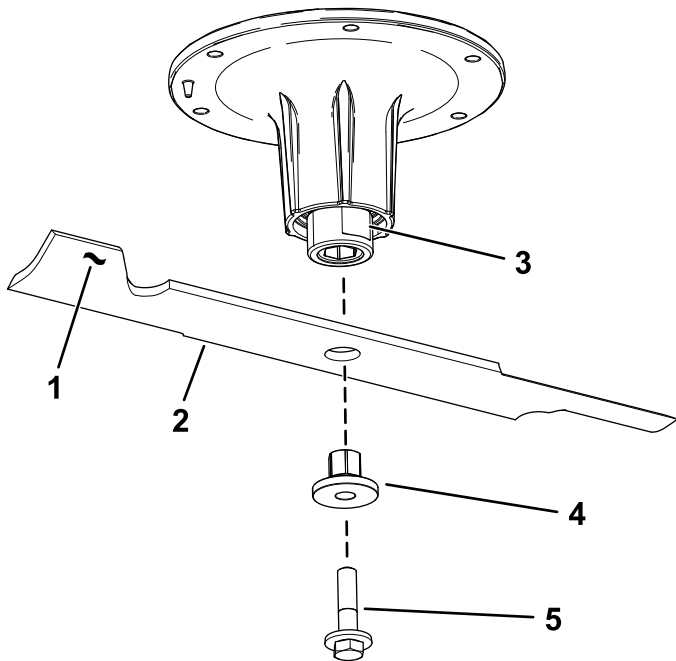

Figure 74
2. Remove the blade bolt, bushing, and blade from the spindle shaft (Figure 74).